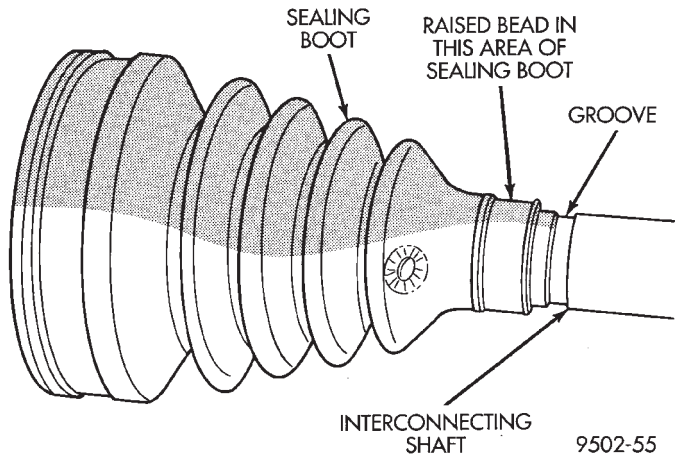

Fig. 29 Sealing Boot Installation on Interconnecting Shaft
(1) Slide inner tripod joint seal boot retaining clamp, onto interconnecting shaft. Then, slide the replacement inner tripod joint sealing boot onto the interconnecting shaft. **Inner tripod joint seal boot MUST be positioned on interconnecting shaft, so the raised bead on the inside of the seal boot is in groove on interconnecting shaft (Fig. 29).**